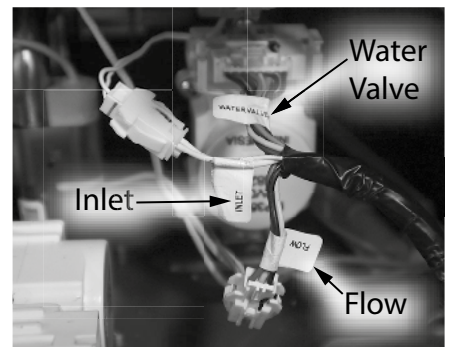

Figure 11 - Location of inlet flow module harnesses
- 21 Locate the three (3) wiring harness at the inlet flow module and disconnect them. See Figure 11.
- 25 Reconnect the end of the new main wiring harness to the three (3) wiring harnesses removed in **Step 21**. See Figure 11.